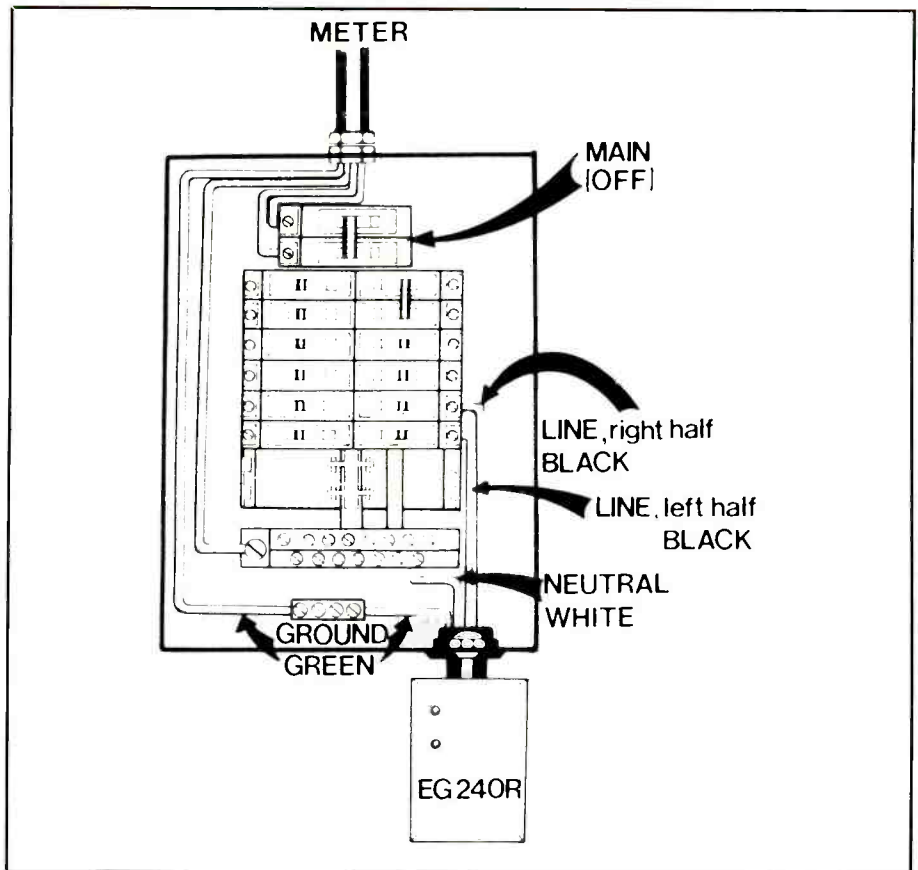

Fig. 1. The whole-house protector should be mounted below the circuit-breaker panel as shown.
The Protector should be mounted below the panel, as pictured in Fig. 1. Plac-
Refer to Fig. 1 and first connect the green (ground) wire to the panel's ground connector. Then connect the white (neutral) wire to the appropriate connection point. If your circuit breaker doesn't have a separate ground bus, connect the green wire (first connection to be made) to the neutral bus (where the white wire is to be connected).
Electrical line noise is a succession of interference that appears on the ac sine wave. Shown in Fig. 1(A) is an idealized ac sine wave as it would appear at a wall outlet and goes to your computer, and Fig. 1(B) shows a sine wave with noise "riding" on the sig-
nal. Note in Fig. 1(B) that the waveform is still generally correct, but it's distorted by the noise.
They can affect your system in many different ways. They may cause memory loss, resulting in parity errors or sending your system "into the weeds." They may stress certain components, compromising their long-term integrity and resulting in intermittent operation that may make your software seem buggy. They can even result in total catastrophic system failure. In any case, it's not a pleasant situation. Fig. 1(C) illustrates a spike on the power line.
Fig. 1. Anatomy of electrical noise: (A) an idealized ac sine wave with no electrical noise present; (B) a sine wave with noise riding the signal; (C) a spike on the ac-line sinusoid.